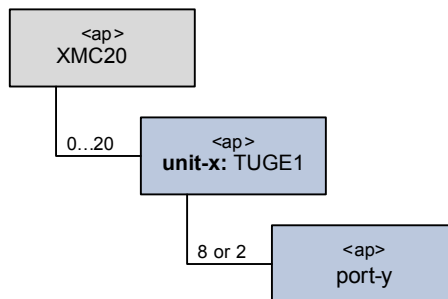

Figure 17: MOM (managed object model) of the TUGE1 unit
The Figure 17 "MOM (managed object model) of the TUGE1 unit" shows the access point (AP) tree for the TUGE1 unit with its managed objects.